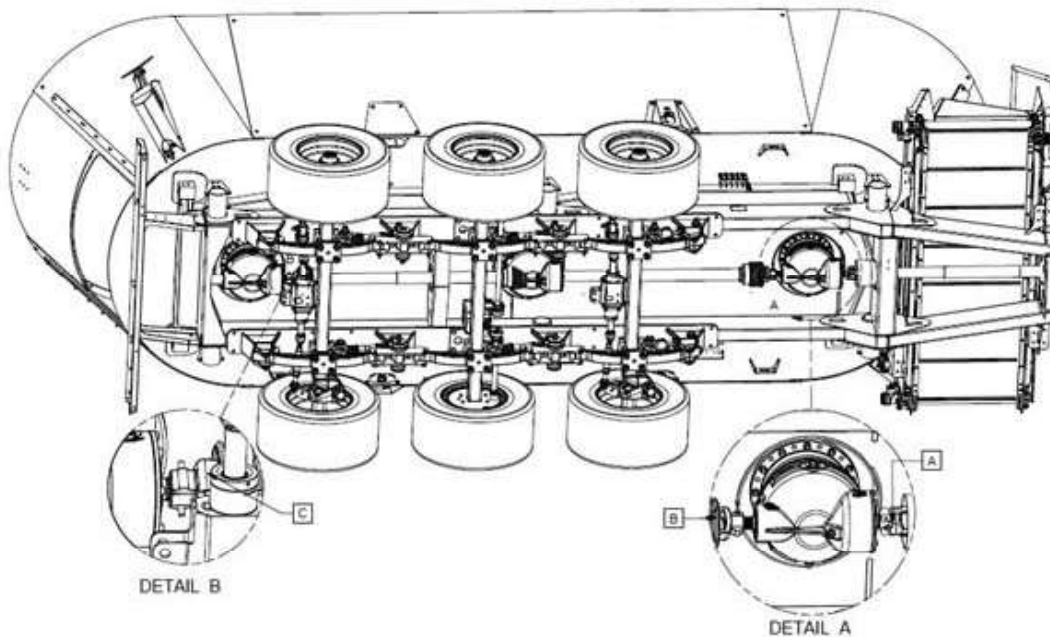

Figure 40 — Location of the Shear Bolt Yokes on a Triple-Auger SMARTMIX
Triple-auger SMARTMIX mixers have three yokes. The first yoke is located on the secondary drive shaft and protects the three planetary gearboxes for the mixing augers (Figure 40, A). The second yoke is located after the first gearbox for the middle auger (Figure 40, B). The third yoke is located after the second gearbox for the rear auger (Figure 40, C).
If the shear bolt for the front auger breaks (Figure 40, A):
2. Remove the piece of shear bolt from the yoke (Figure 40, A).
If the shear bolt for the middle auger breaks (Figure 40, B):
2. Remove the piece of shear bolt from the yoke (Figure 40, B).
If the shear bolt for the rear auger breaks (Figure 40, C):
2. Remove the piece of shear bolt from the yoke (Figure 40, C).